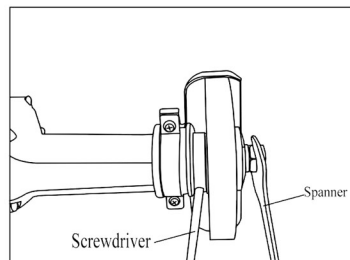

Fig2
1. To remove the wheel, insert a thin & long hard stick (such as screwdriver) into the side of inner flange and hold it, and then use the open spanner to loose the nut counterclockwise.(Fig2)